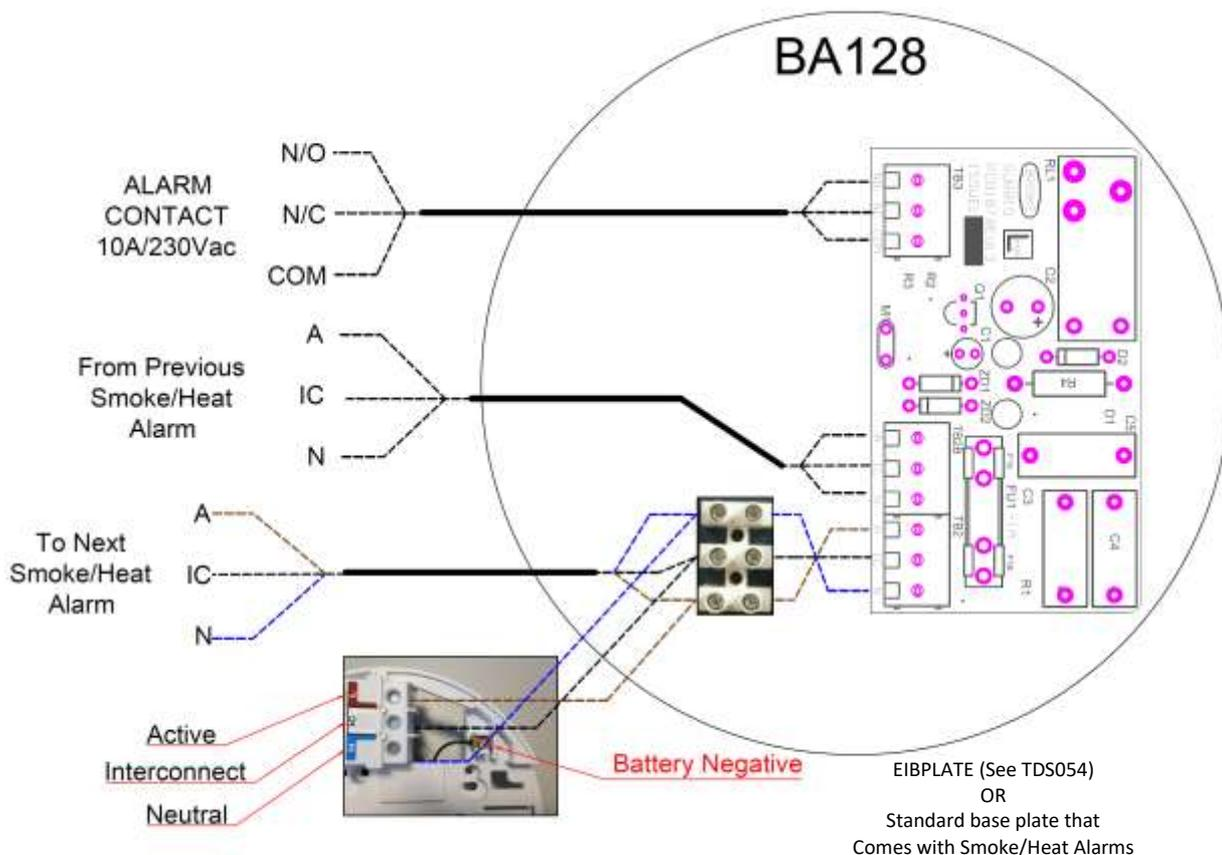

Figure 1 BA128 Wiring
4. Connect three double insulated wires between the terminals on BA128 PCB and the terminals on the Smoke / Heat Alarm / CO base plate as shown in Figure 1. This "IC" wire must be connected even if it is a single alarm installation.